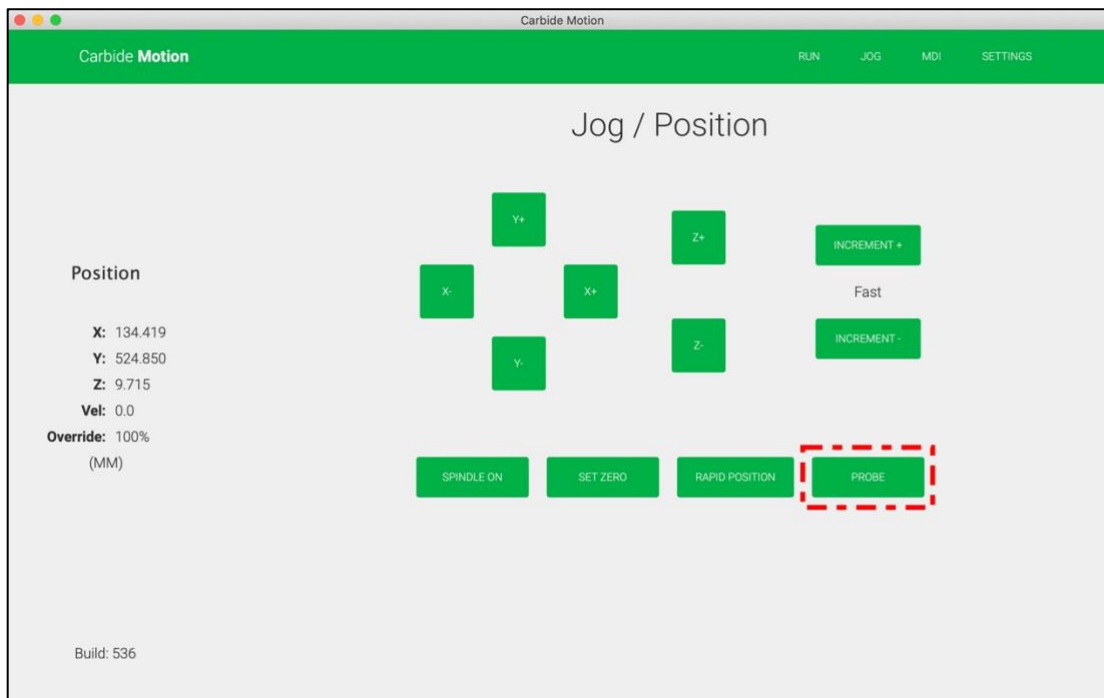

Figure 12
9. Click the **Probe** button to open the *Probe Workpiece* window. See **Fig. 12**.